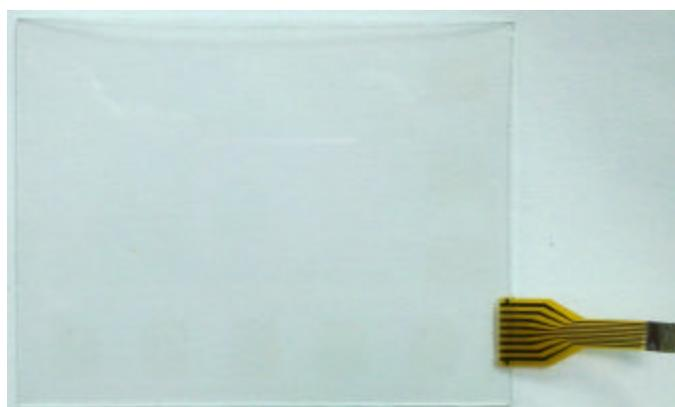

Figure 2. ITO Glass Capacitive Touch sensor
- One ITO Glass Capacitive Touch sensor with five function keys and FPC pinout (Figure 2)